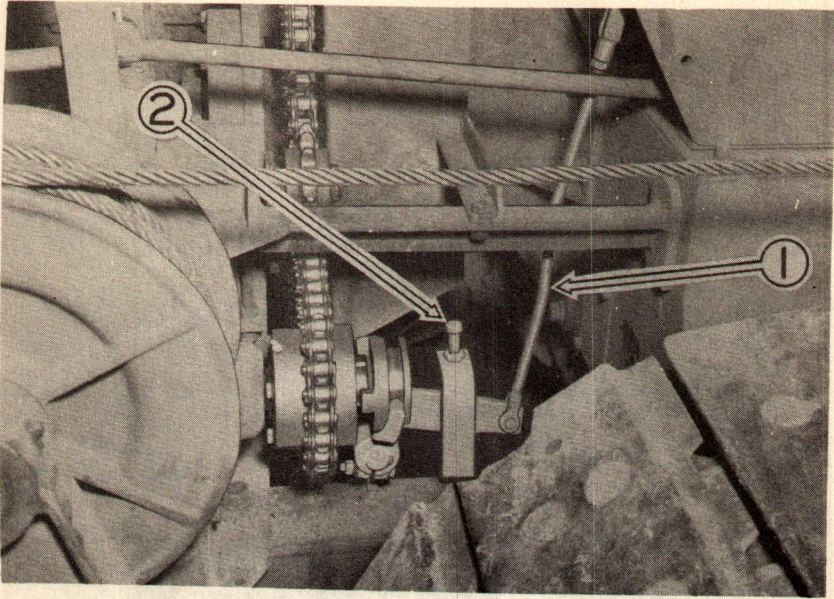

Figure 50 Right Hoist Clutch Control
When the links to the worm shaft brake have been connected and adjusted properly, check the position of the connecting yokes on links (1), Figures 50 and 51. Adjust the links so the jaw clutch sliding members move to full engagement when pressing the control pedals. Set and lock nuts on the adjustment bolts (2), Figures 50 and 51, so the clutch members are held within 1/16" of complete engagement of the jaws. This adjustment is important as it protects the clutch shift forks from excessive wear when the operator holds the clutch in engagement.